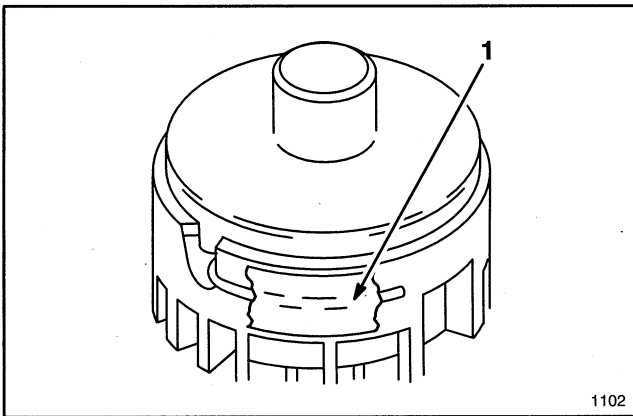

Figure 10
1. To avoid line tangle during shipment, the tip of the monofilament line has been taped to the cutter head. **The tape must be removed before operation** (Fig. 10).